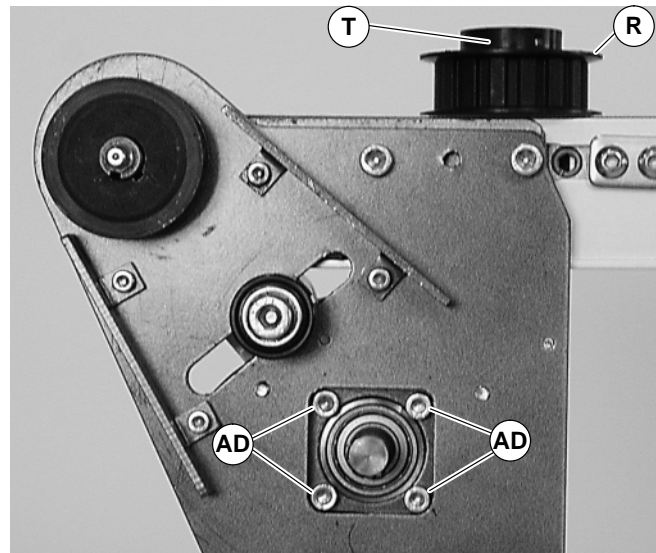

Figure 18
5. Loosen two (2) set screws (T of Figure 18). Remove drive pulley (R).
6. Remove four (4) screws (AD) and detach gearmotor.
7. Mount new gearmotor with four (4) screws (AD). Tighten to 5 Nm.
8. Replace drive pulley (R of Figure 18) and tighten set screws (T).